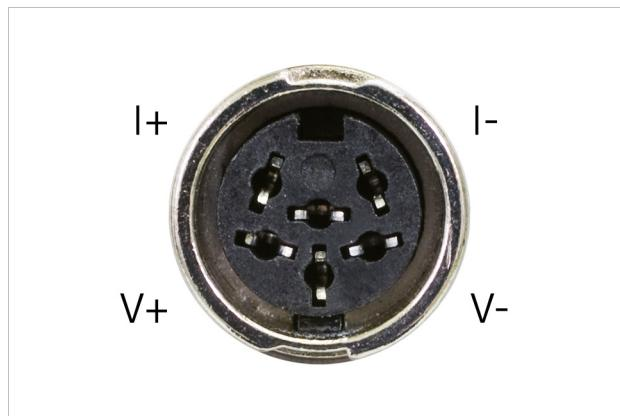
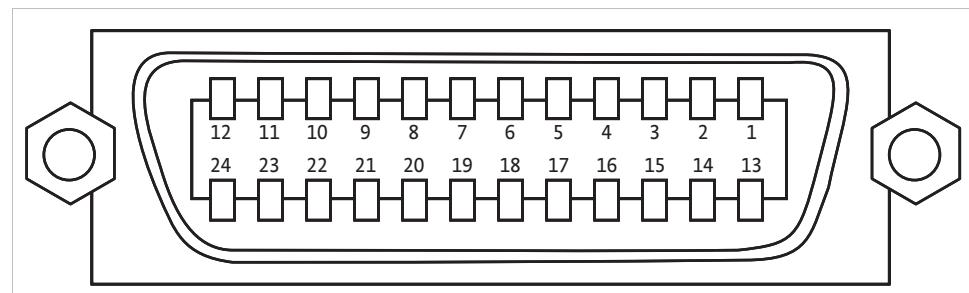

FIGURE 8-2 *Sensor input A through D*
FIGURE 8-6 IEEE-488 interface
1. Locate the line input assembly on the instrument rear panel. See Figure 8-2.
2. Turn the power switch Off (O).
9. Turn the power switch On (I).
The sensor input, heater output, terminal block, USB, Ethernet, and IEEE-488 connectors are defined in FIGURE 8-2 through FIGURE 8-6.
The total length of cable allowed in a system is 2 m for each device on the bus, or 20 m maximum. The Model 224 can drive a bus of up to 10 devices. A connector extender is required to use the IEEE-488 interface and relay terminal block at the same time. FIGURE 8-6 shows the IEEE-488 interface connector pin location and signal names as viewed from the Model 224 rear panel.